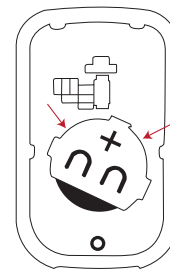

Figure 3
- Using the tip of a phillips Head screw driver (Flat head) push the old battery out, and replace it with the new CR032 Lithium battery. (Figure 3)